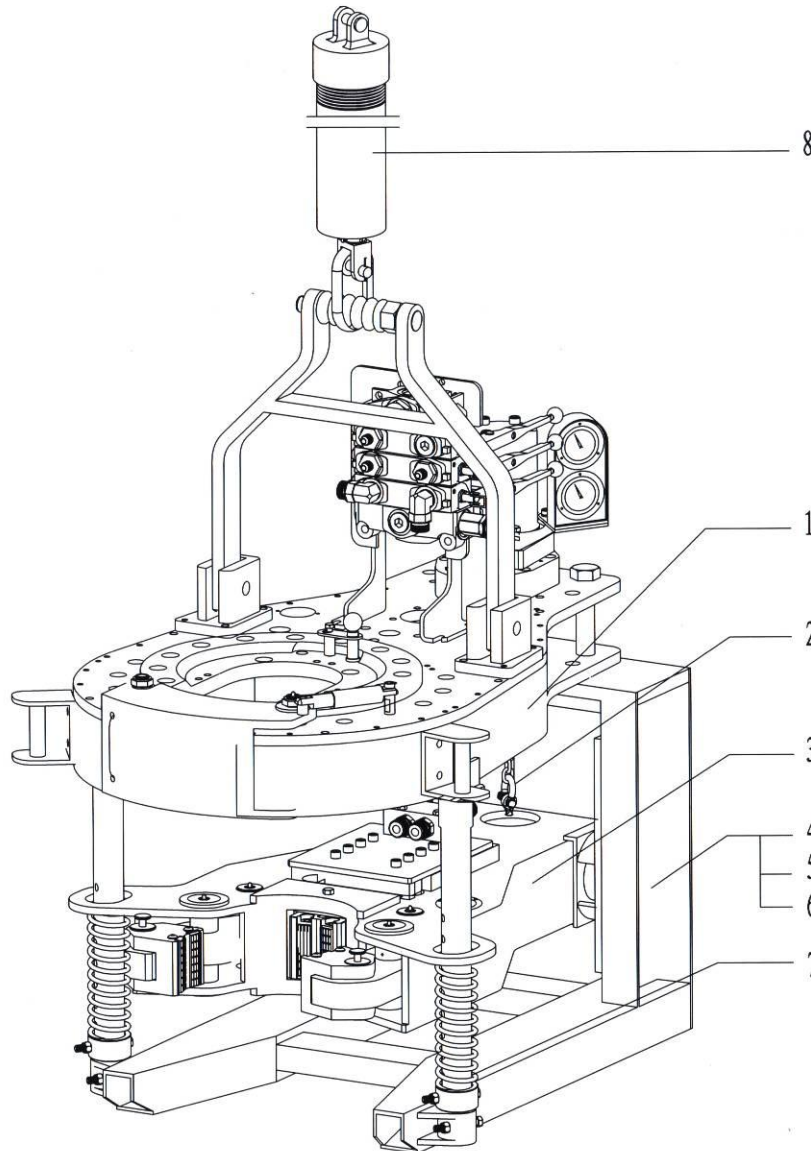

Fig. 1
7.0 KHT7625 General assembly (Fig 1, Table 1)